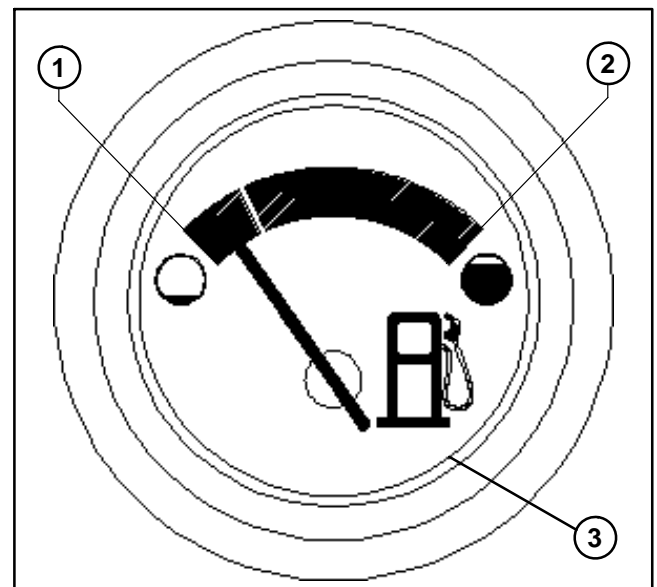

Figure 30
2. Take test point readings (Fig. 30).